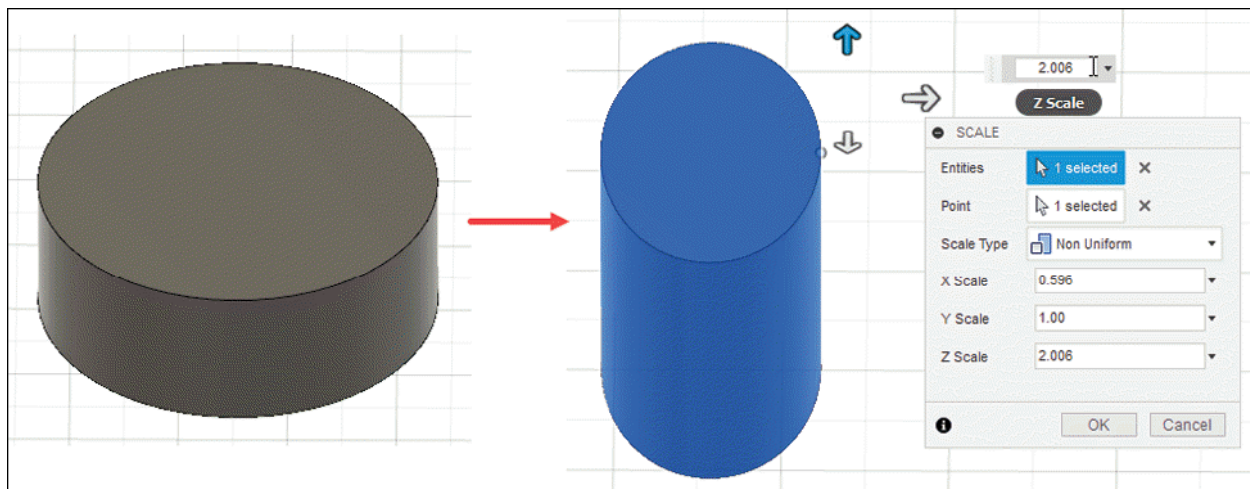

Figure-35. Preview of scale
- Click in the **Scale Factor** edit box and specify desired value for scale. The preview will be displayed; refer to Figure-35.